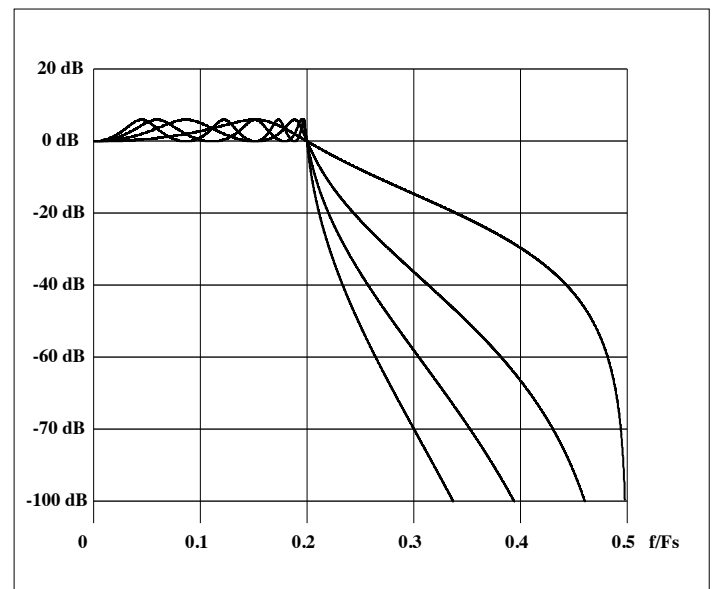

Figure 7. Frequency responses of a range of Chebyshev filters.
**Figure 7** shows the frequency response of some Chebyshev filters of various orders ( $p = 2, 4, 6$  and  $8$ ). The narrow transition band can be seen clearly: if a sharp cutoff is required, it will be achieved more easily using this kind of filter.